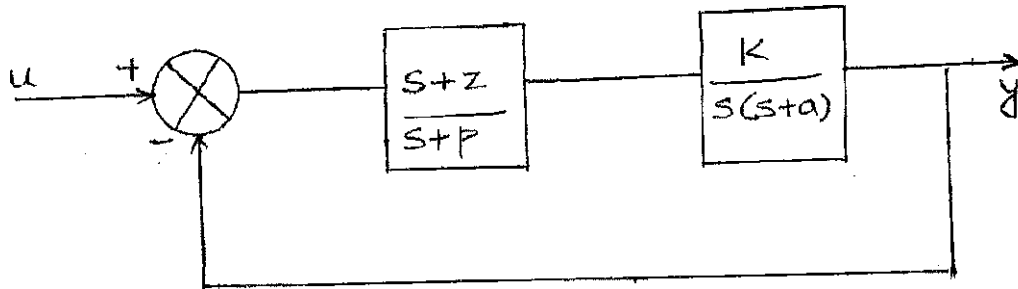

Fig. 4
b) Obtain the state space representation of the system shown in fig. 4.